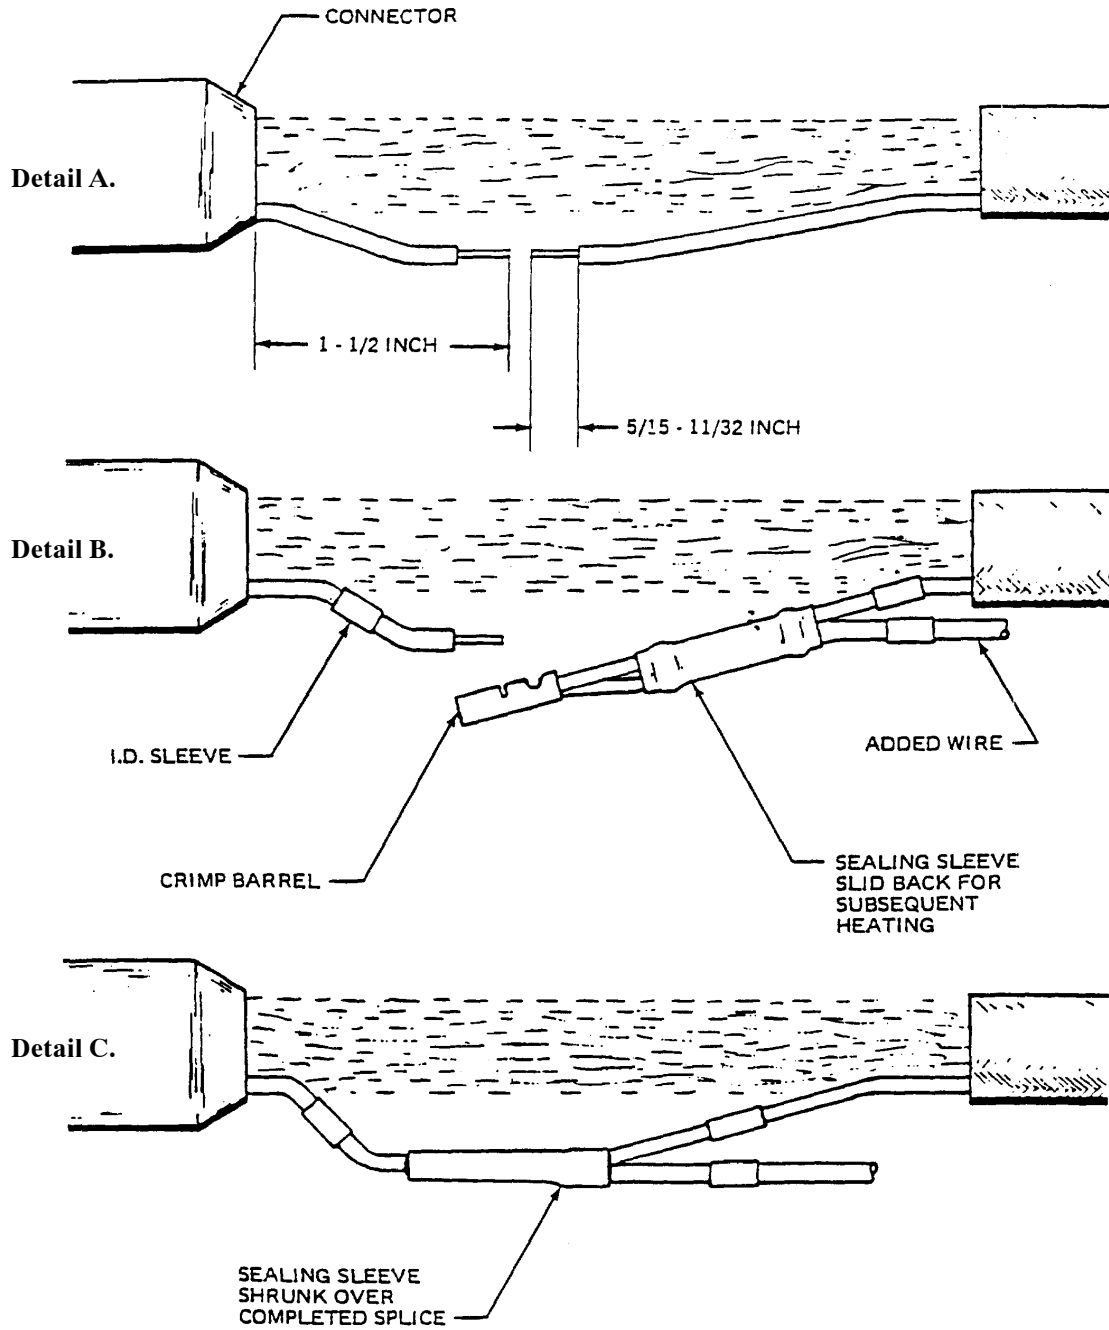

Figure 12. Adding Wire to Existing Wire Using Environmental Seals Splice
- Cut existing wire 1 1/2 inches from connector potting or connection insert (Figure 12, Detail A).
19. **Adding Wire To Existing Wire.** When it becomes necessary to add a wire to an existing wire in the harness, route added wire parallel and external to the existing harness. Secure added wires to the harness using lacing tape and proceed as follows (Figures 12 and 13).
- c. Slip the crimp barrel of the splice over the wires as shown in Figure 12, Detail B. Crimp as specified in WP 014 00.
- d. Shrink sleeve over crimp barrel as shown in Figure 12, Detail C.